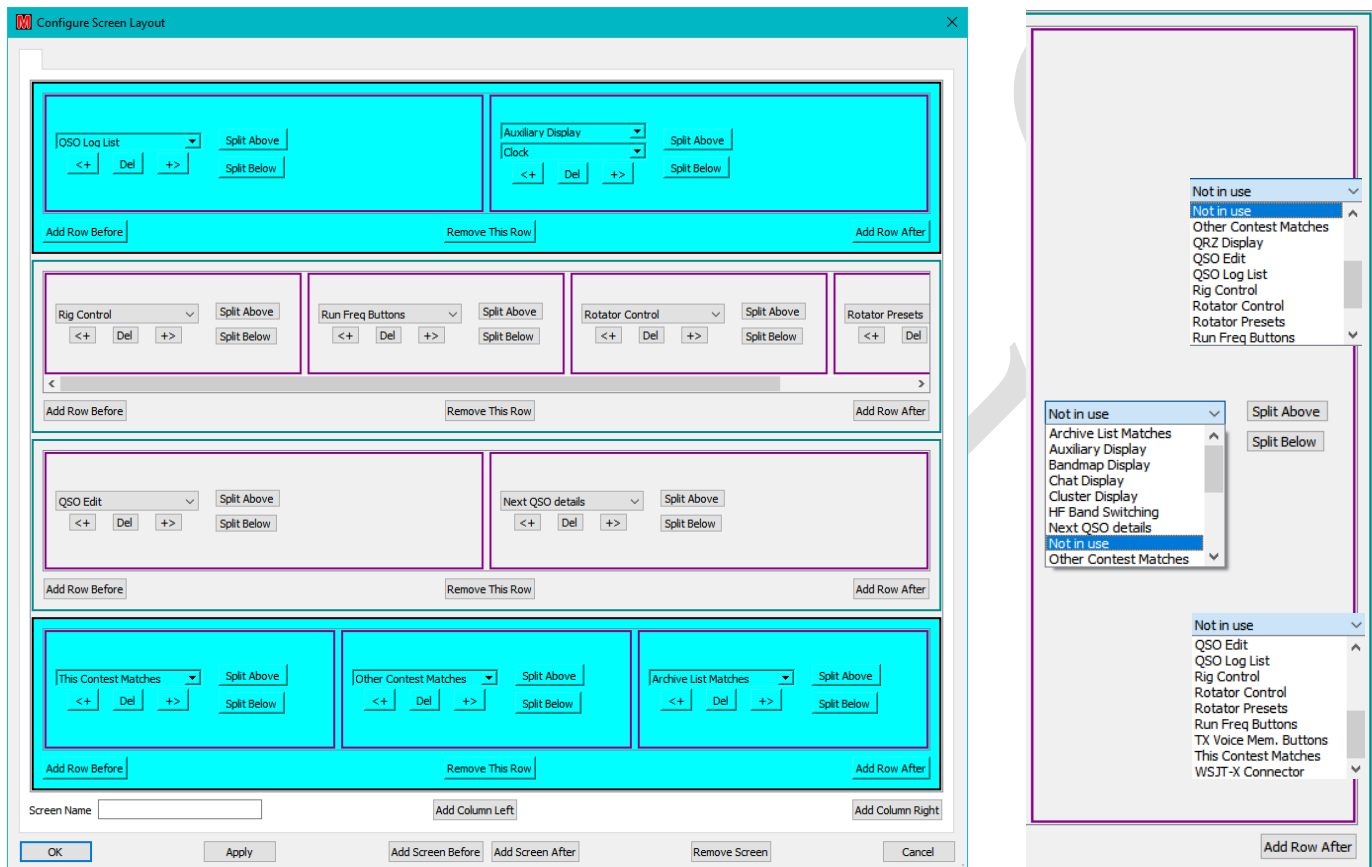

Figure 59 – Add column to left/right
- “**Add Column Left/Right**” is typically used for the Bandmap Display⁵⁵ (Figure 59 right), although other panels may be configured. The extent of the column is marked using the CTRL key (Figure 59 left) and clicking to select the top and bottom rows, then clicking the requisite button⁵⁶.